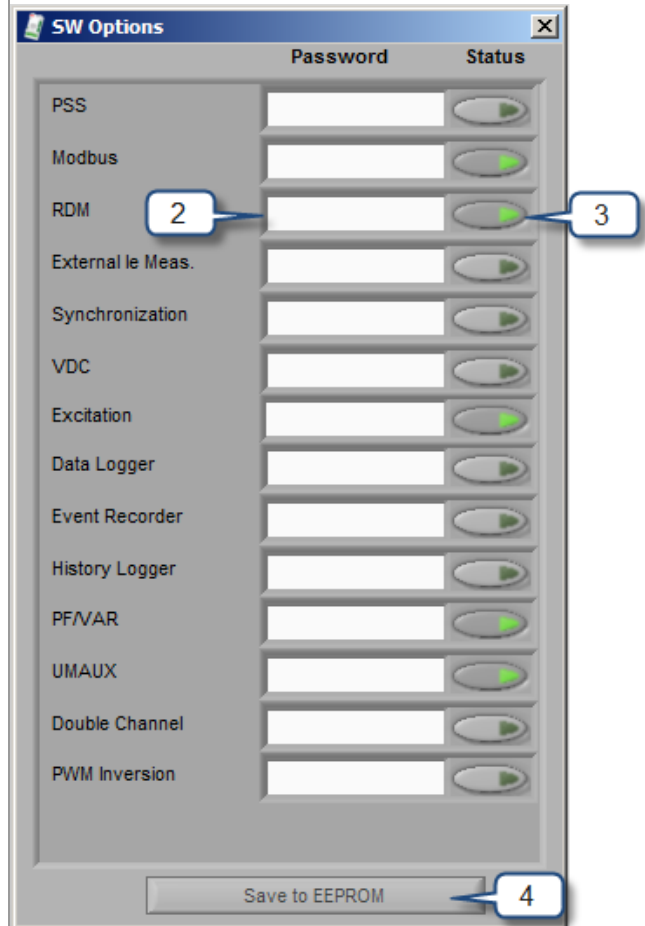

Figure 6-14. The SW Options window allows the user to enable optional software in the AVR.
2. Type the password provided by ABB (case sensitive) in the white box located beside the SW-option intended to enable (*Figure 6-14*). Click the Enter key on the keyboard in order to validate the password.